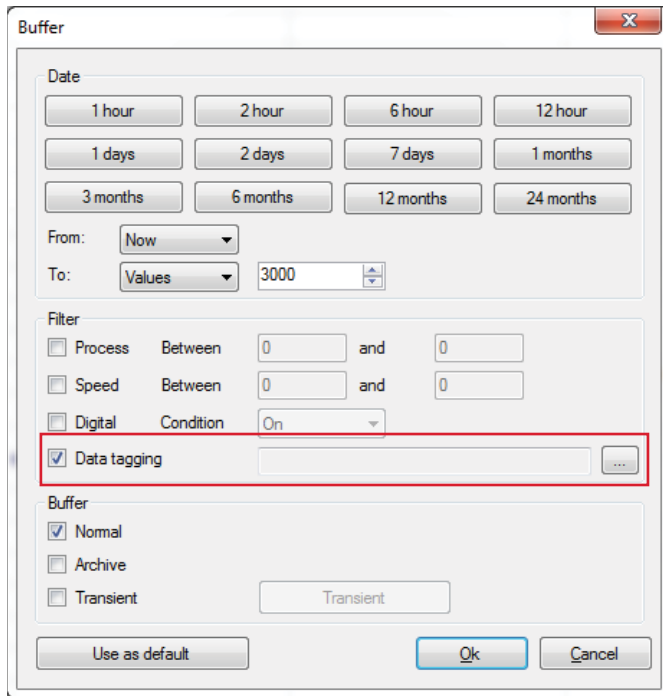

Fig. 13. Buffer window.
- Open the buffer option, select **Data tagging** and click the selection button (...) (→ fig. 13).